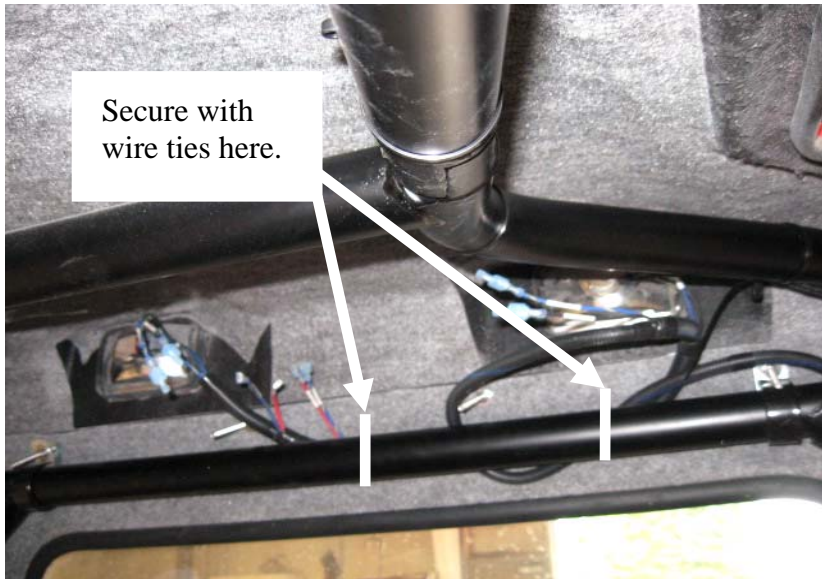

Figure 8
11. Routing wire harness. First plug the harness into the rear lights. Then secure with two wire ties. As shown in figure 8.